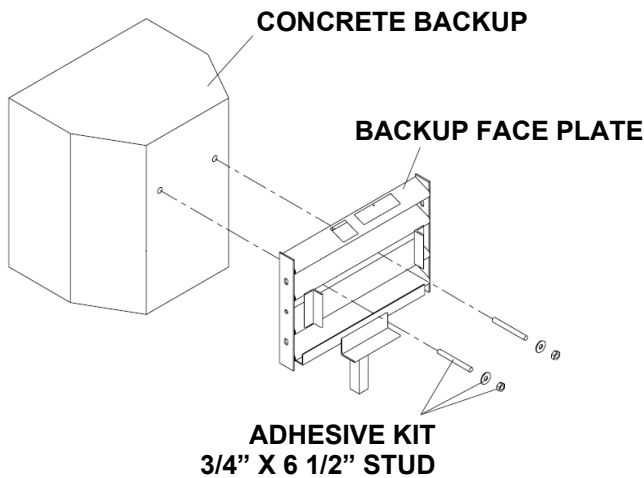
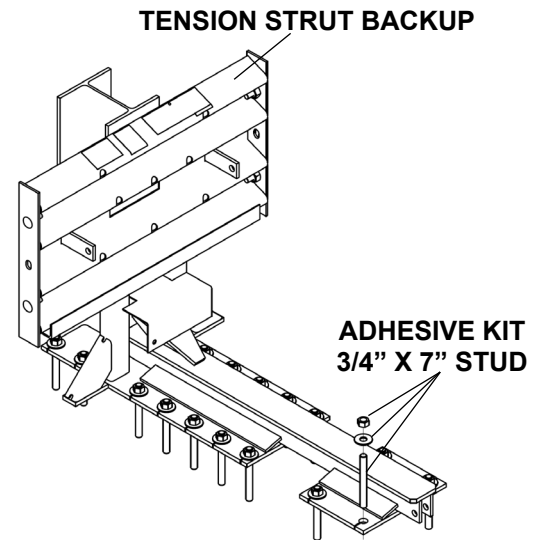
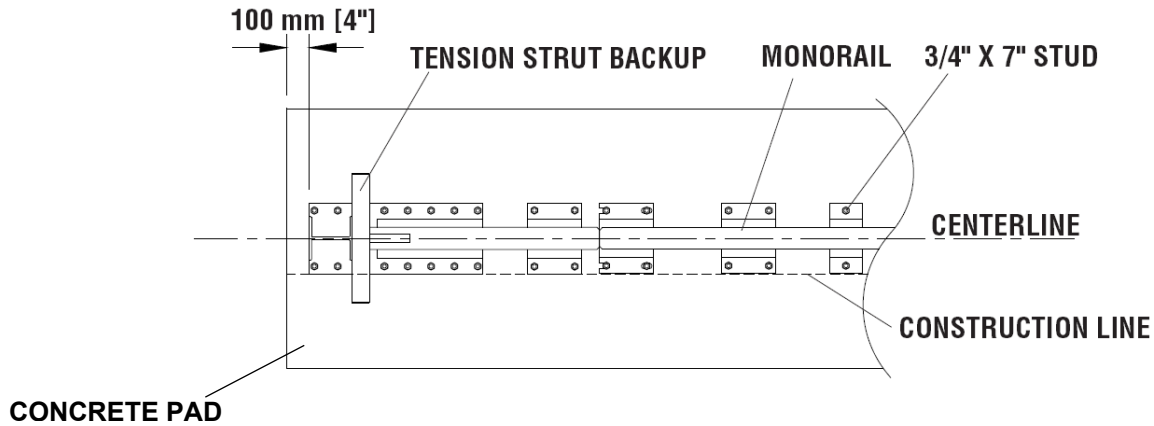

Figure 16
Figure 17
Figure 18
Refer to Figure 16 (showing concrete Backup Assembly) or Figure 17 (showing Tension Strut Backup Assembly) and Figure 18 (showing Monorail assembly). See drawing package.
A. For Concrete Backup Assembly (Figure 17)
B. For Tension Strut Backup Assembly (Figure 18)
Locate Tension Strut Backup and Monorail on pad with side of Monorail on the construction line (Figure 16). Verify that any applicable Transition Panels fit properly before anchoring Backup. Drill anchor holes in pad using the Backup as template. Anchor the Backup to the concrete pad using an approved adhesive kit (p. 13).